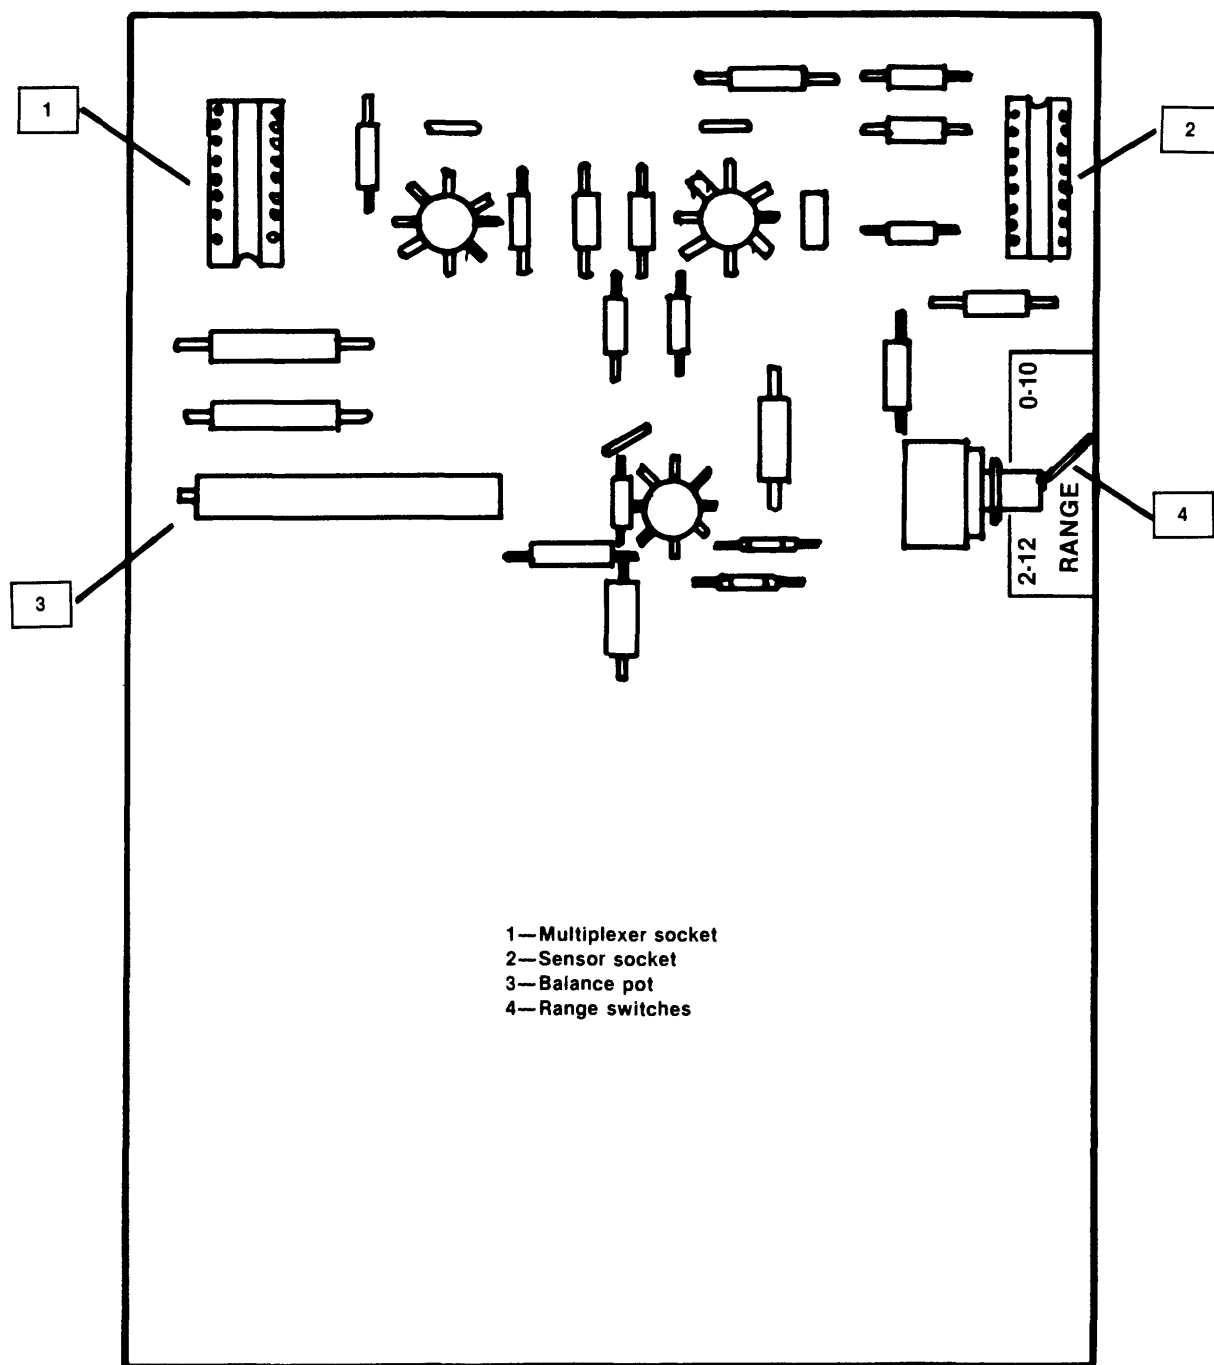

Figure 14.--pH signal conditioner.
The system provides for two measuring ranges, 0 to 10 pH or 2 to 12 pH, selected by a toggle switch located on the pH SIGNAL CONDITIONER board (fig. 14, pH SIGNAL CONDITIONER).
5. Use a small screwdriver to adjust the balance pot (fig. 14) until the ANALOG-VOLTAGE output is 3.5 volts if the range selected is 0- to 10-pH or 2.50 volts if the range selected is 2- to 12-pH.